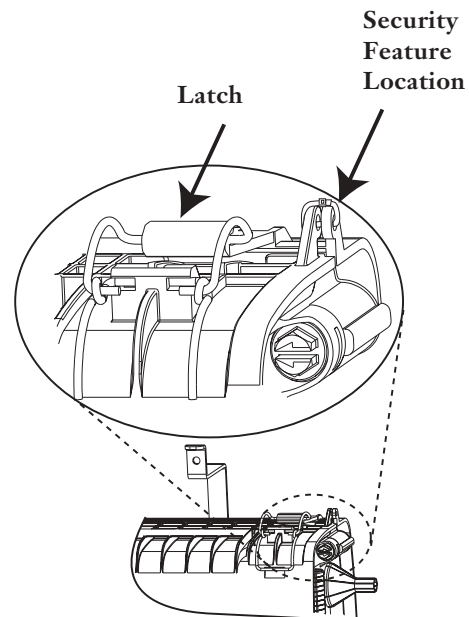

Figure 23 — Secure Terminal
- Step 2** Close the cover and secure the latches (Figure 23).